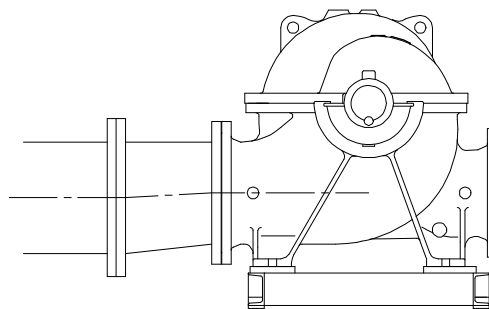

Fig.3-2 Installation of the taper pipe
- When the diameter of the suction pipe is different from the diameter of the suction port of the pump, connect the taper pipe between the suction pipe and the suction port of the pump (Fig.3-2).